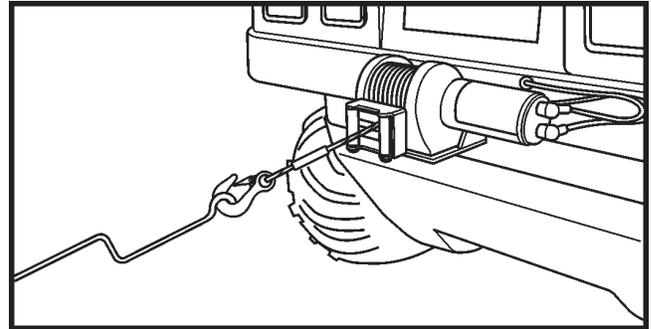

Figure 11-8. Using the Handsaver Bar.
7. Keep clear of winch wire rope and hook when operating winch. Never put your fingers through the hook when reeling in the last few feet of line. If your finger should become trapped in the hook, you could lose your finger. Use the **HANSAVER BAR** (Figure 11-8) to guide the hook within the last few feet. Never guide a wire rope onto the drum with your hand.